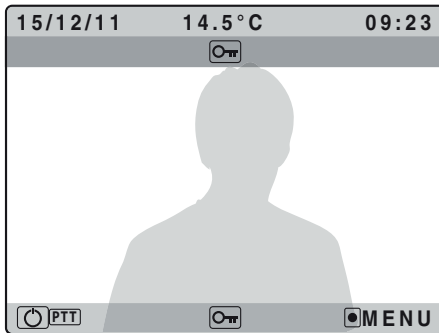

Fig.3b
- To open the door press the  button Fig.3b;